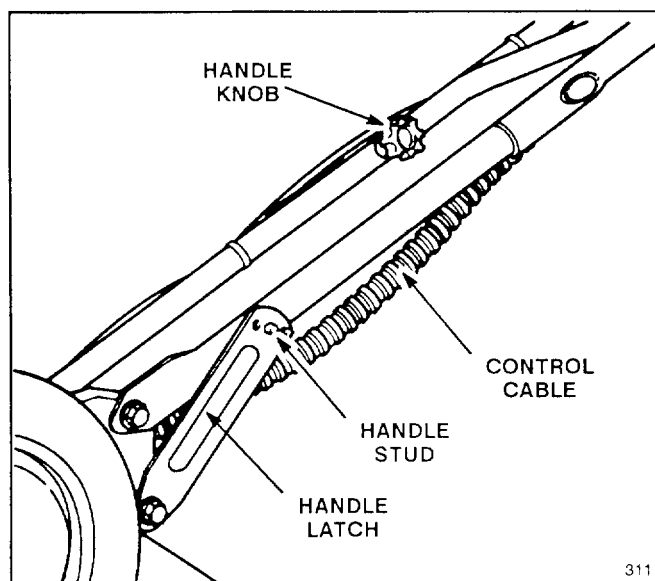

Figure 1
1. Align handles and tighten handle knobs (Fig. 1). Bend handle latches (Fig. 1) slightly inward.
2. Pivot handle backward until handle studs can be snapped into center holes of handle latches (Fig. 1). Ensure control cables are to the rear and inside of handles.